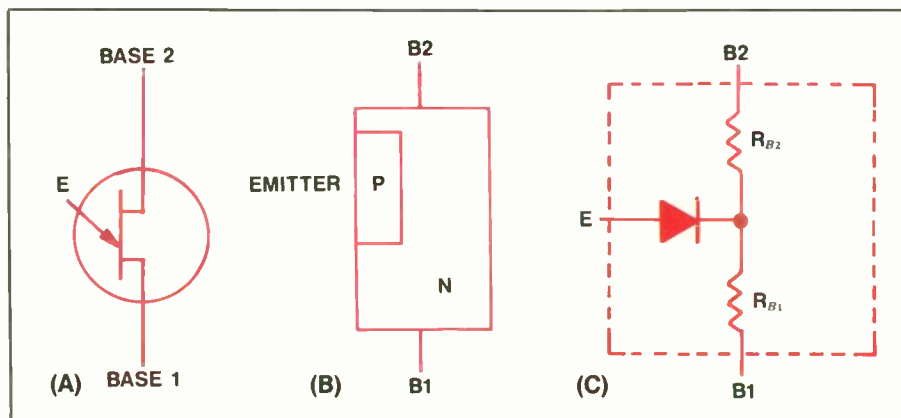

Figure 1.
Figure 1 shows that the unijunction transistor is a three-terminal device featuring a single P-N junction. The terminals at opposite ends of a slab of N-type silicon are referred to as base 1 and base 2. A P-type emitter is fabricated into the side of the slab, closer to base 2 than to base 1, as seen in (a). The emitter and the slab form a P-N junction. The UJT is equivalent to a diode connected between the emitter terminal and the junction of the  $R_{B1}$ - $R_{B2}$  voltage divider representing the internal resistance of the silicon slab; see Figure 1(c).
**Figure 1.** If the volume control works but the tuning and the tone controls have no effect on this radio receiver, take your first readings at TP4 and then TP5. By taking oscilloscope readings here, you can isolate the problem location to either the first or second half of the receiver.